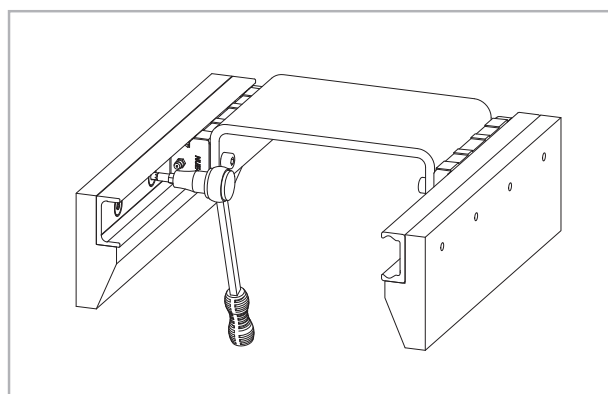

Fig. 113
(2) Install the compensating bearing rail and only tighten the fixing screws slightly.
(3) Insert the sliders in the rails and install the element to be moved, without tightening its screws.
(4) Insert the element in the center of the rails and tighten it with the correct tightening torque (see pg. CR-59, tab. 42).
(5) Tighten the center rail fixing screws to the specified torque (see fig. 113).
(6) Move the element to one end of the rail and start tightening the rest of the screws in the direction away from the slider.